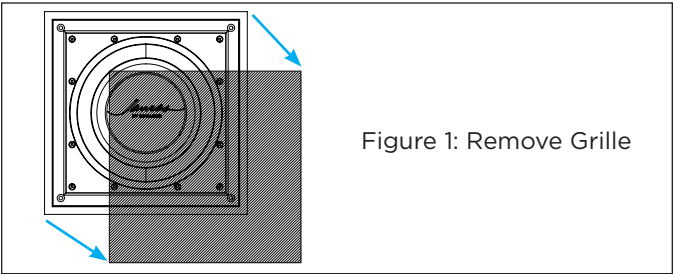

Figure 1: Remove Grille
1. Before mounting, remove the grille from the subwoofer. The grille is secured with a press-fit retention system along the edges and corners. Starting at one corner, gently pull along each edge to evenly release each connection point, then set the grille aside (see Figure 1).